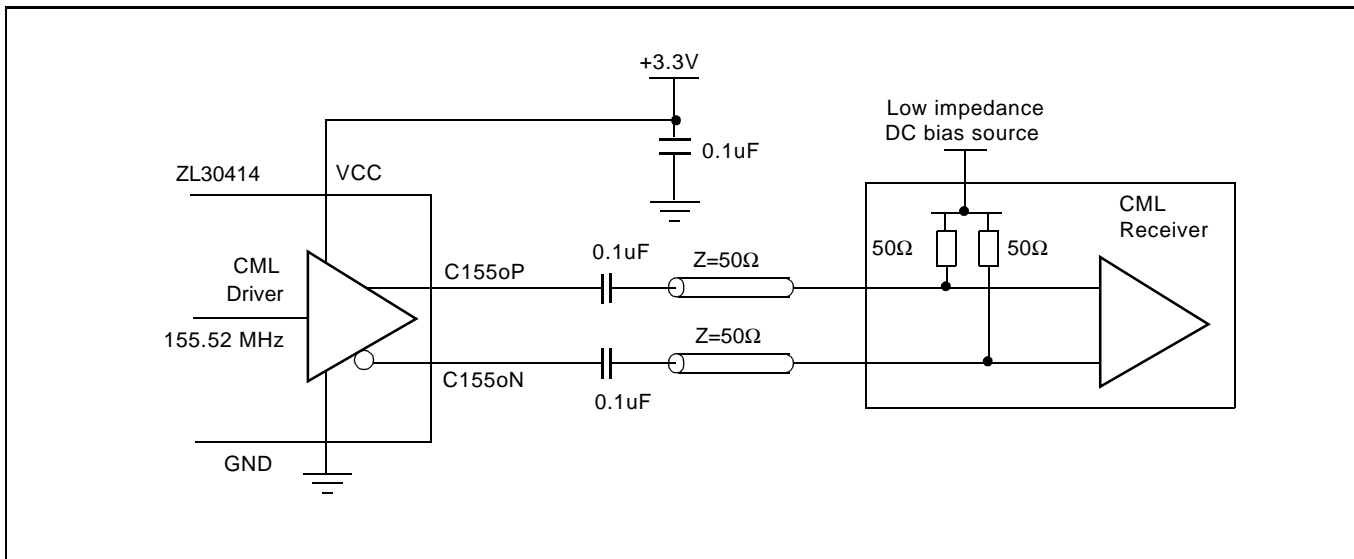

Figure 9 - CML to CML Interface
- Note 3: CML outputs terminated with  $Z_T = 50\Omega$  resistors connected to low impedance DC bias voltage source (see Figure 9)